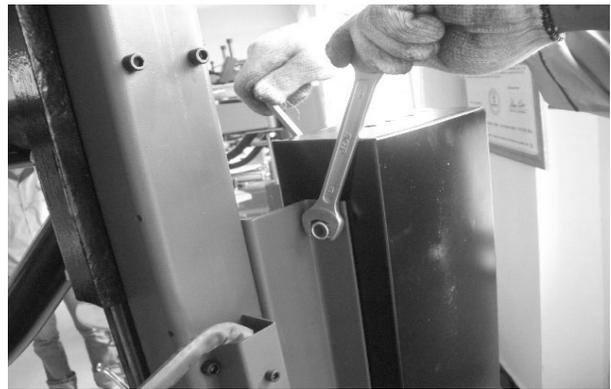

FIG 36
6.1.8 According to the fig36, fix the fix bracket on the body and fix the tool box on the fix bracket and then use the lock nut to tight.